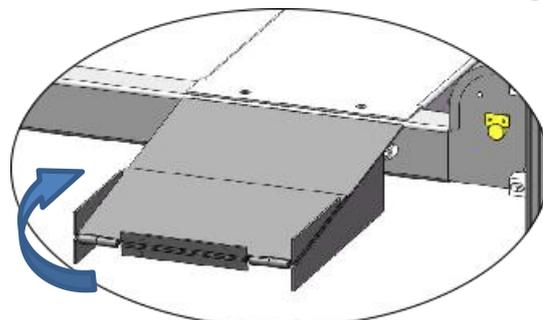

Fig. 29
O. Install Rear folding drive-in ramp (See Fig. 29)